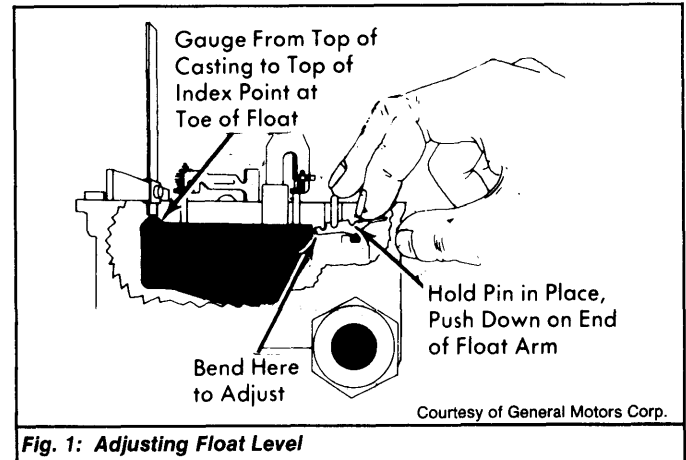

Fig. 1: Adjusting Float Level
- 1) Remove air horn. Hold float pin firmly in place. Push down on end of float arm against top of float needle. See Fig. 1.